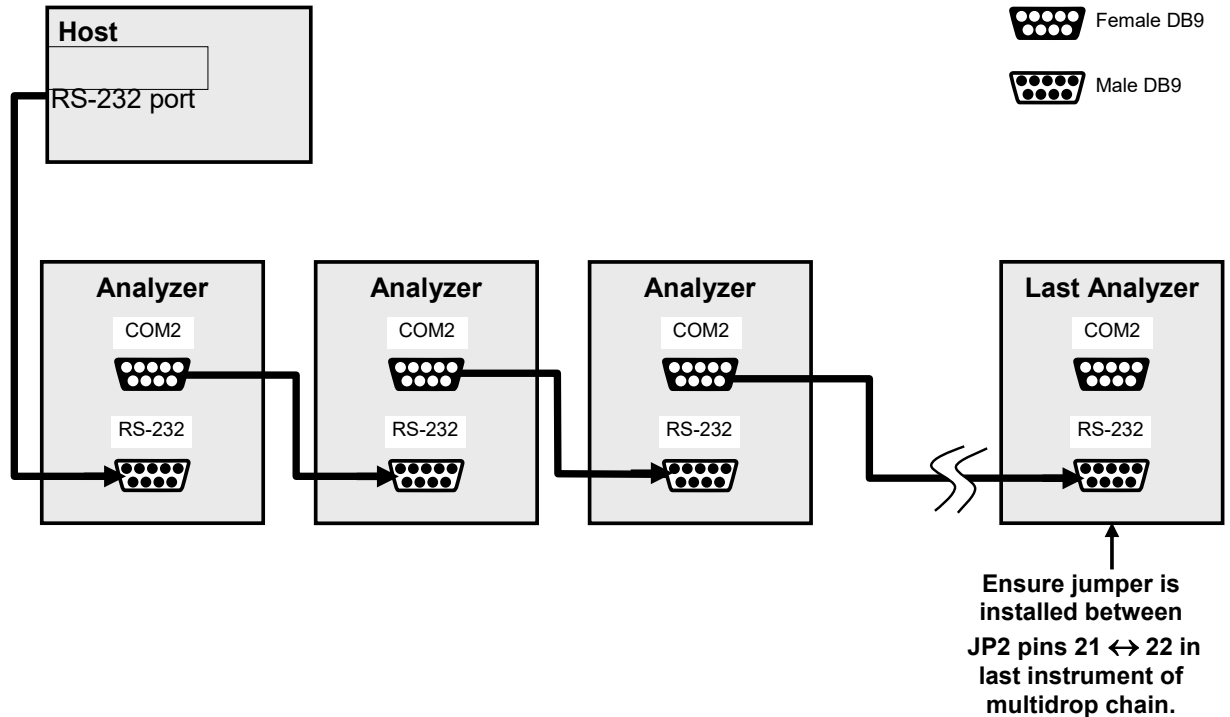

Figure 2-14. RS-232 Multidrop PCA Option Host/Analyzer Interconnect Diagram
5. Referring to Figure 2-14 use straight-through DB9 male → DB9 female cables to interconnect the host RS232 port to the first analyzer's RS232 port; then from the first analyzer's COM2 port to the second analyzer's RS232 port; from the second analyzer's COM2 port to the third analyzer's RS232 port, etc., connecting in this fashion up to eight analyzers, subject to the distance limitations of the RS-232 standard.